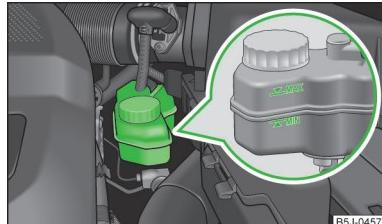

Fig. 130
-  Do not continue your journey if the fluid level has fallen below the MIN marking » Fig. 130 on page 146 - there is a risk of an accident. Seek help from a specialist garage.
The brake fluid reservoir is located in the engine compartment » Fig. 130.
➤ Check the level of brake fluid in the reservoir » Fig. 130.